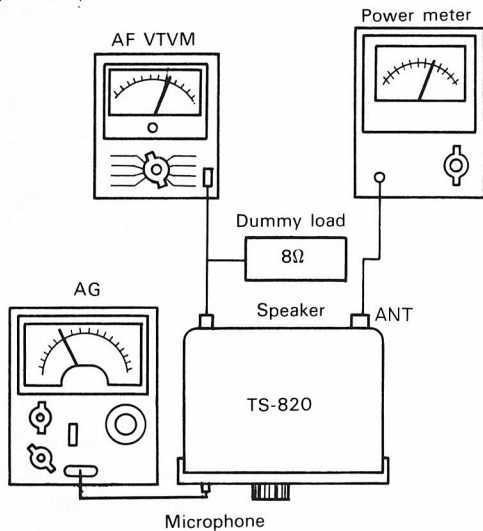

Fig. 38 Adjustment of monitor level
- 1) If Fig. 38, make adjustment until full power is obtained at 14.175 MHz, CW, and set the MODE switch to SSB \grave{a} (or LSB).